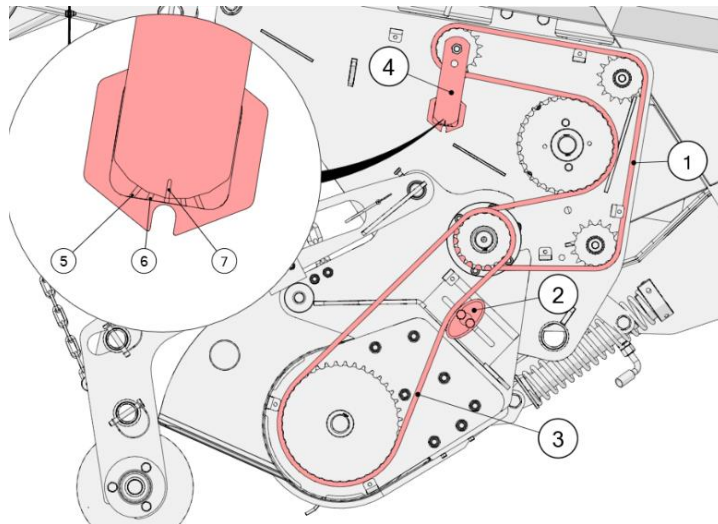

Figure 14. Tensioning the chain of the pick-up
- To tension the pick-up chain (3), loosen the tensioner bolts (2) and slide it upwards so that the chain is tight (Figure 14)
- The drive chain (1) is tensioned via an automatic tensioner (4) Read the value on the indicator (7) as shown in Figure 14 The indicator should be between the bars marked 5 and 6. If the indicator is outside this range, please: